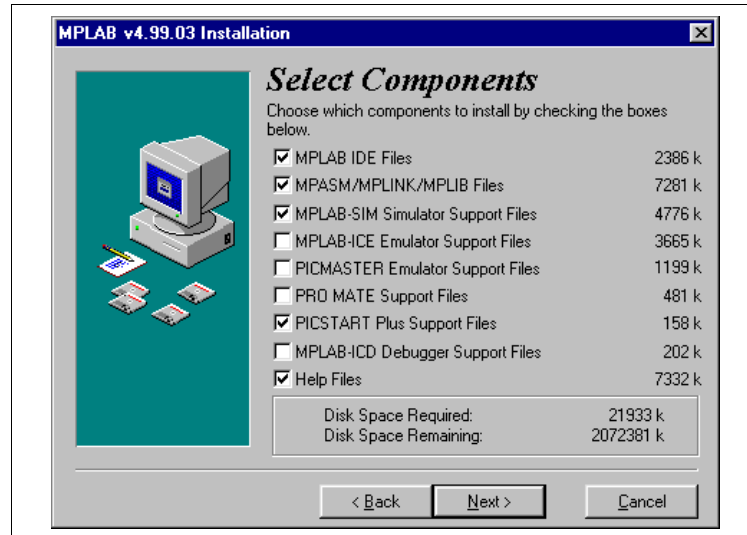

Figure 3.1: Select Components Dialog
- Follow the on-screen instructions to install the MPLAB IDE. Be sure the checkbox to install PICSTART Plus is checked (Figure 3.1).